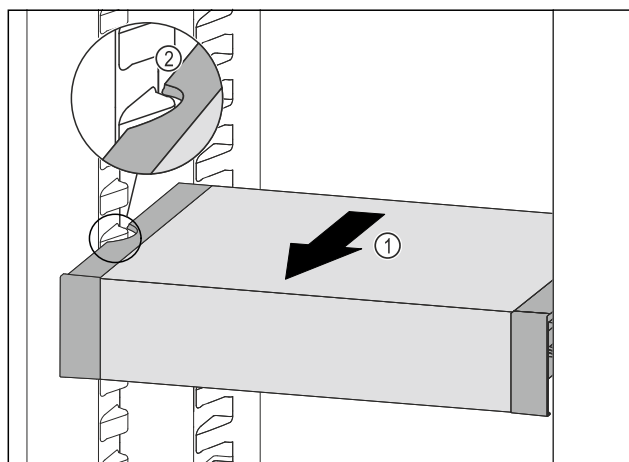

Fig. 112
- Pull VarioSafe forwards Fig. 112 (1) until the recesses in the side of the VarioSafe are at the level of the support rib in the fridge section. Fig. 112 (2)